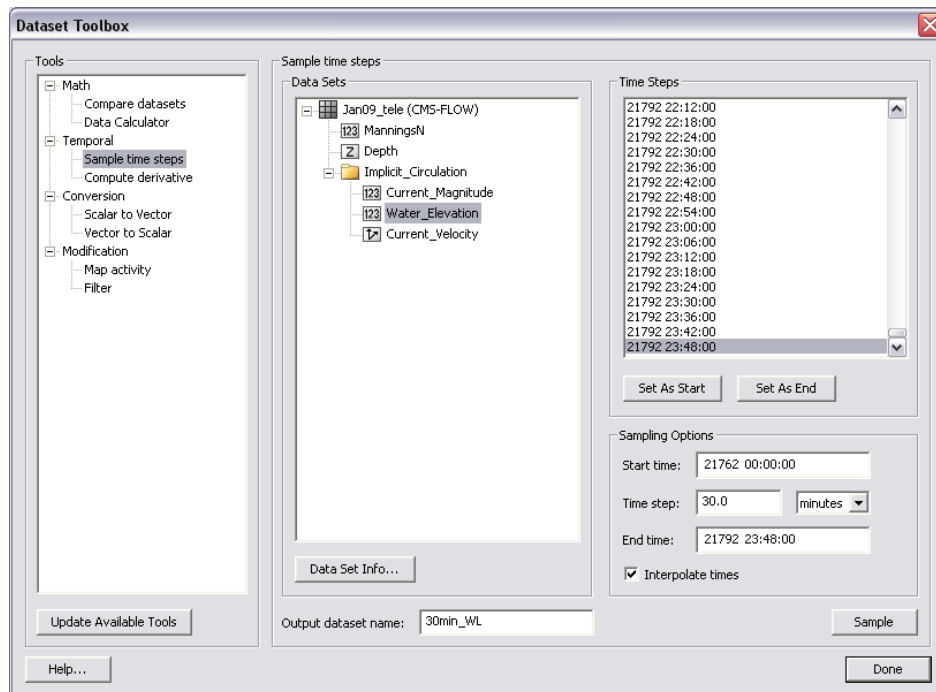

Figure 8.1.7. Sampling time steps of the *Water_Elevation* scalar dataset in the *Dataset Toolbox*.
1. To create a 30 minute dataset of water levels from the original 6 minute output, go to *Data, Data Calculator*, and under the *Tools* section, select *Temporal, Sample Time Steps* (Figure 8.1.7).